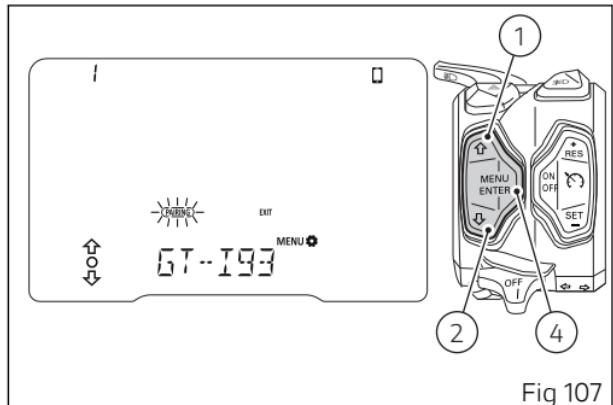

Fig 107
The Pairing function is activated by pressing button (4) after selecting the PAIRING item (flashing frame) (Fig 107): this runs a search for all Bluetooth devices present within a certain range.
After entering BLUETOOTH SETTING MENU (Fig 107), use buttons (1) and (2) to select the device to be deleted from the list shown in the Menu. Once the device is selected, press button (4). The instrument panel displays "DELETE" within the Menu. Press again button (4) to confirm, or press button (2) for 2 seconds to cancel deletion of the device. If user confirms deletion of the device, the instrument panel will display "WAIT" within the Menu.